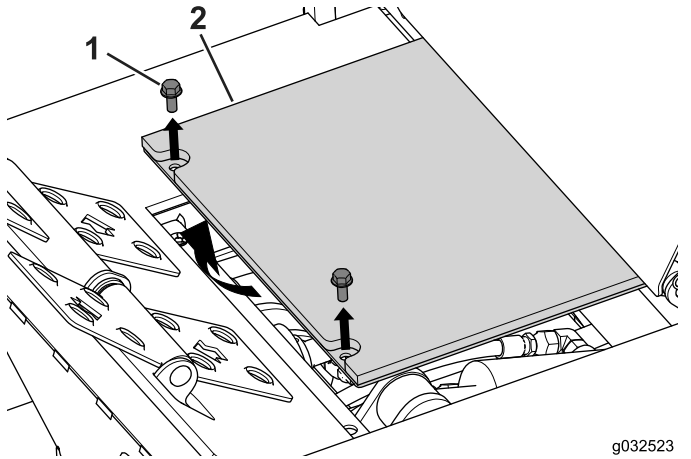

Figure 101
1. Remove the 2 bolts securing the floor-plate cover and remove the cover (Figure 101).